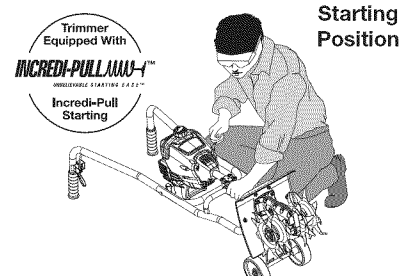

Fig. 8
4. Crouch in the starting position (Fig. 8). Do not squeeze the throttle, pull the starter rope with a controlled motion until the unit starts. Wait and allow the unit to idle for 60 seconds.